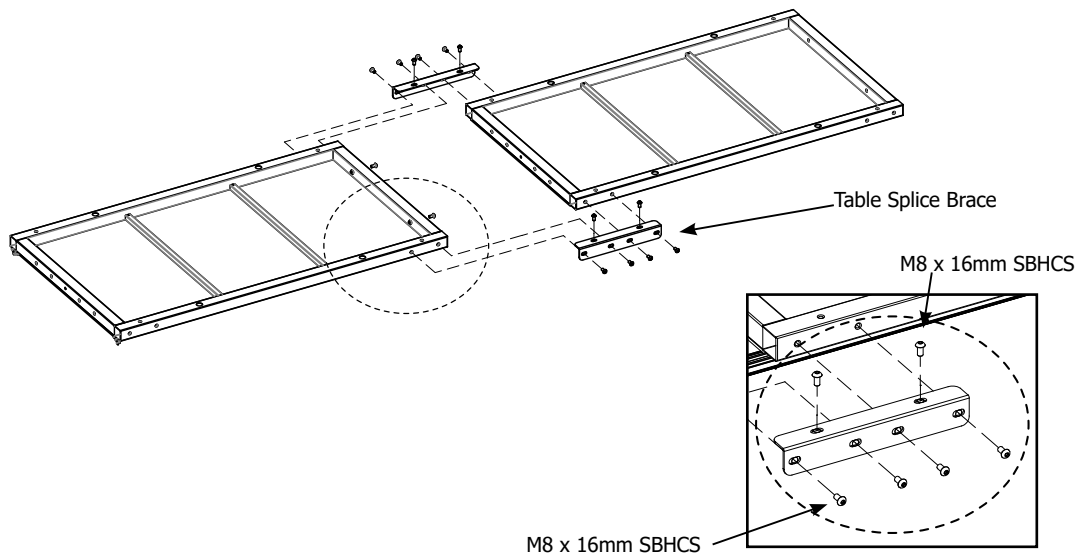

Fig. 2-1
- 2-1:** First, lay two table sections upside-down on the floor, end to end, close to each other. Join the sections together by placing a table splice brace onto the sections, as shown in Fig 2-1, lining up the holes in the brace with those in the sections. Make sure the flange portion of the brace is on top. (See Fig 2-1.)
- 2-2:** Place four (4) M8 x 16mm SBHCS through the side and two (2) M8 x 16mm through the top of each splice brace and finger-tighten them into the table sections.
- 2-6:** Fully tighten the two (2) top screws on each table splice brace, using the 5mm Hex tool. Now fully tighten the 4 screws on the side of each table splice brace with the 5mm Hex tool. All 24 screws should now be tightened.